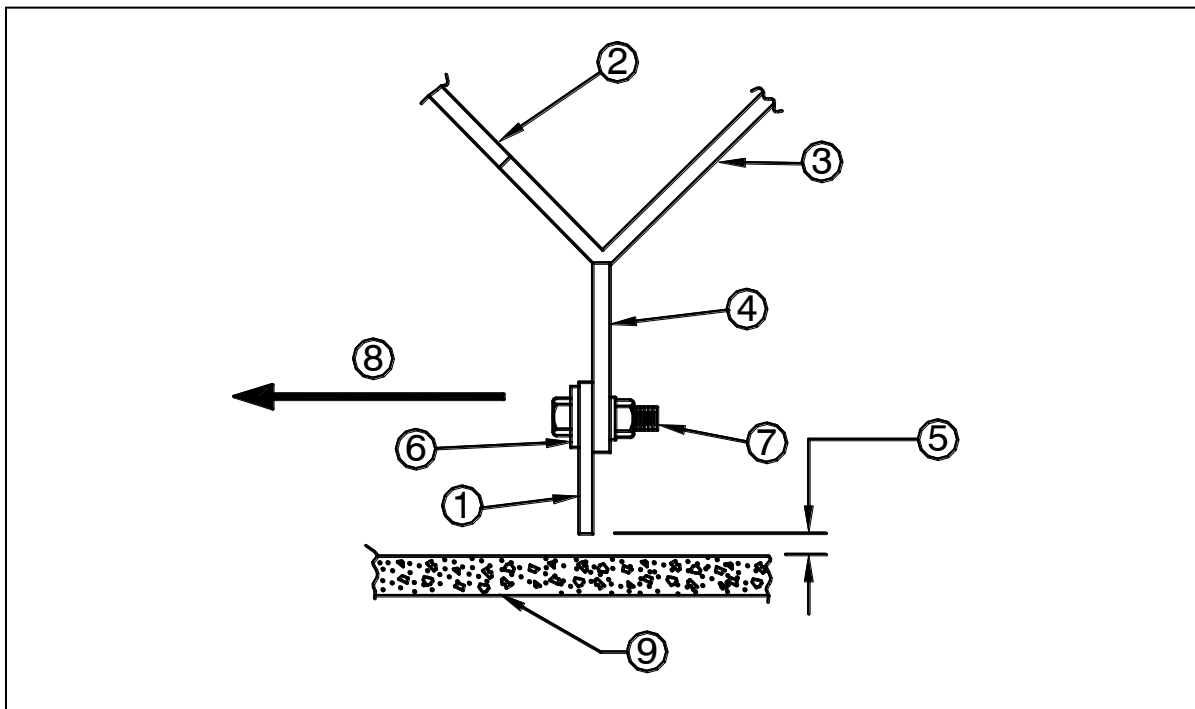

Figure 2.22a
1. After the tank has been grouted, install all the squeegees, referring to the part numbers on the Rake Arm Erection drawing. The squeegees must be installed on the side of the duct and blade facing the direction of arm rotation, as shown in Figure 2.22a.